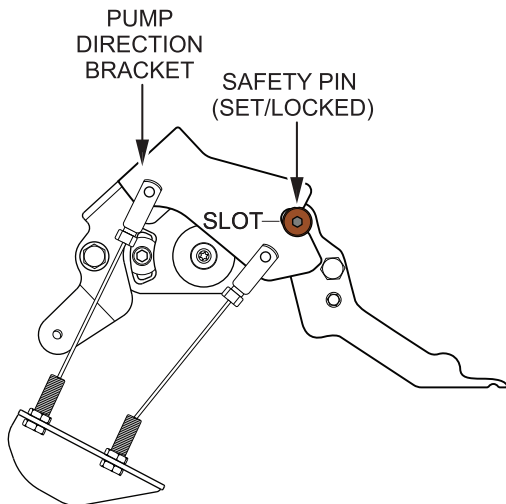

Figure 46. Safety Pin Engaged (Locked)
6. Verify that the safety pin (Figure 46) has been properly seated back into the pump direction bracket slot.